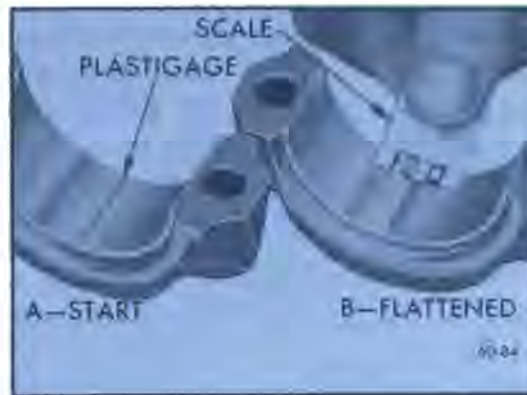

Figure 60-223—Checking Bearing Clearance with Plastigage
2. Place a piece of Plastigage lengthwise along the bottom center of the lower bearing shell (Figure 60-223, View A), then install cap with shell and tighten bolt nuts to 35 lb. ft. torque.
5. Using the scale printed on the Plastigage envelope, measure the flattened Plastigage at its widest point. The number within the graduation which most closely corresponds to the width of Plastigage indicates the bearing clearance in thousandths of an inch. See Figure 60-223, View B.